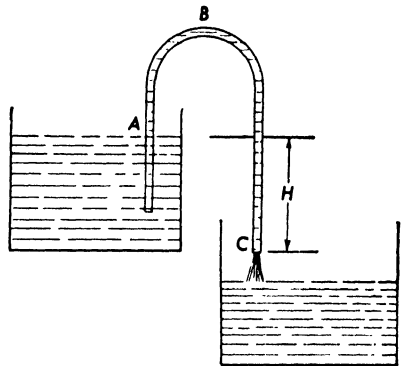

Fig. 6.16. A siphon.
38. The Siphon. A siphon is a bent tube with unequal arms which is used for transferring liquids from a higher to a lower level. If the tube is filled with the liquid and placed as shown in Figure 6.16,